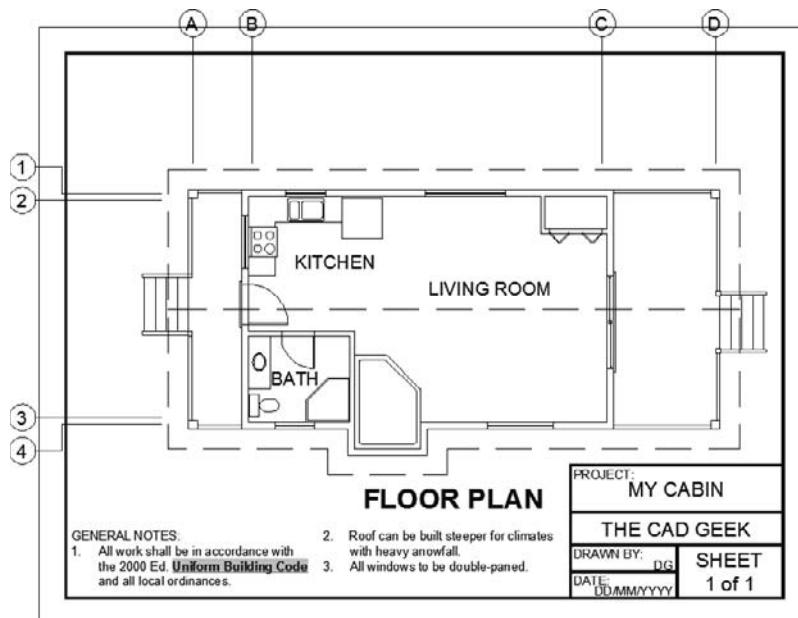

FIGURE 8.67 The cabin with the text added
8. Perform a Zoom Extents, and then save this drawing as 08A-FPLAY3.dwg. Your drawing should look like Figure 8.67.